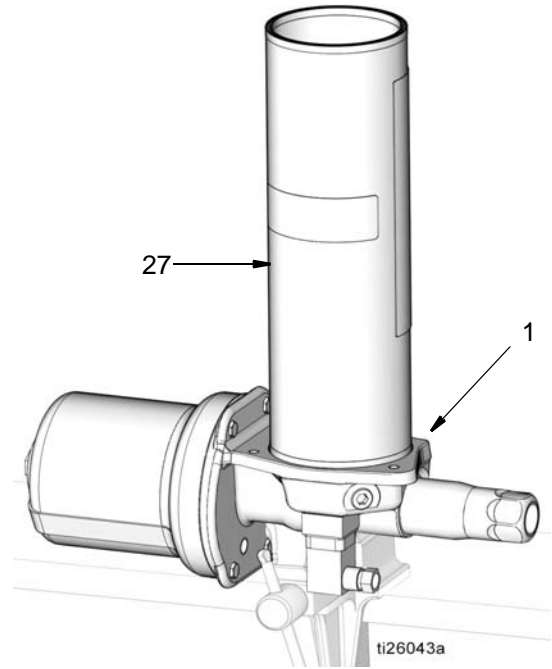

FIG. 57
11. Install reservoir (27) in the pump base (1) (FIG. 57).